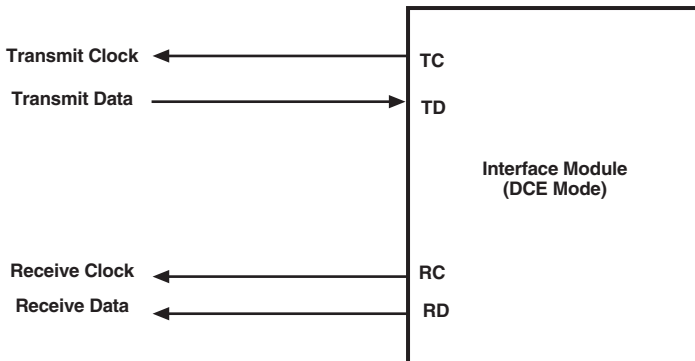

Figure 2-1. Flow of timing signals for DCE mode.
- DCE—the interface module supplies clock signals for the receive and transmit paths. For the X.21 interface, the module provides only a transmit clock signal, and expects to receive data from the DTE at the same rate. **Figure 2-1** shows the flow of timing signals for the DCE mode.